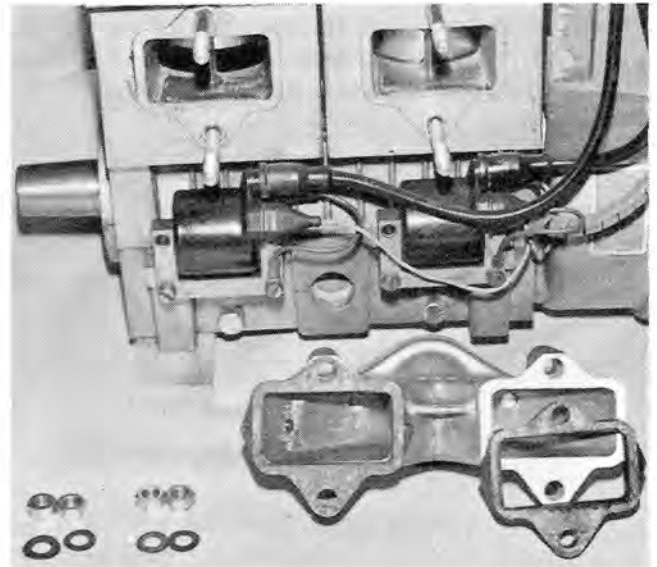

FIG. 1-44
Install spacers, gaskets and intake manifold (Fig. 1-44). Torque nuts evenly to sixteen (16) to (18) foot pounds.